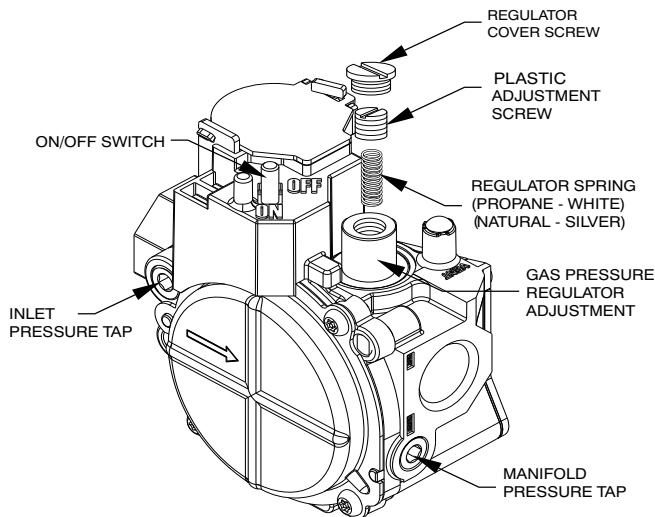

Fig. 18 – Single-Stage Gas Valve
1. Remove regulator cover screw over plastic adjustment screw on gas valve (See Fig. 18).
2. Turn plastic adjustment screw clockwise to increase gas input, or turn plastic adjustment screw counterclockwise to decrease input (See Fig. 18). Manifold pressure must be between 3.2 and 3.8 IN. W.C.
3. Replace regulator cover screw on gas valve (See Fig. 18).
With control access panel (see Fig. 24) removed, observe the unit heating operation. Watch the burner flames to see if they are light blue and soft in appearance, and that the flames are approximately the same for each burner. Propane will have blue flame (See Fig. 18). Refer to the Maintenance section for information on burner removal.